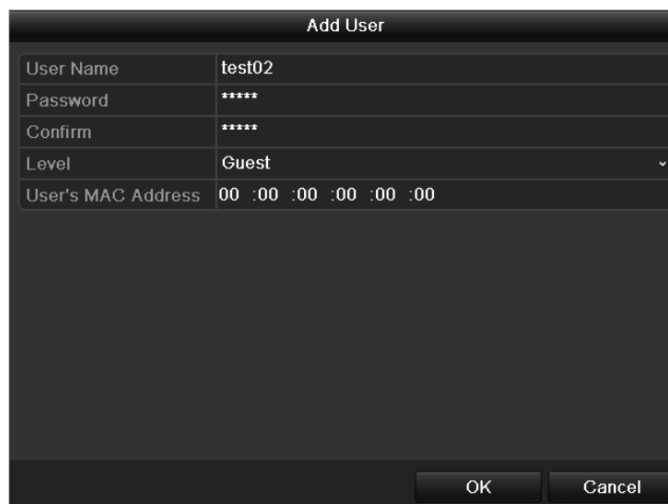

Figure 13.6 Add User Menu
4. Click the **OK** button to save the settings and go back to the User Management interface. The added new user will be displayed on the list, as shown in Figure 13.6.